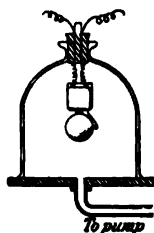

FIG. 315.—
**319. Sound Media.**—Usually sounds reach the ear through the air. The air is then said to be a *medium for sound*. Other substances may serve as a sound medium, for if the head is under water and two stones, also under water, are struck together a sharp sound is heard. Also if one end of a wooden rod is held at the ear and the other end of the rod is scratched by a pin, the sound is more plainly perceived through the wood than through the air. Think of some illustration from your own experience of a solid acting as a medium for sound. If an electric bell is placed in a bell jar attached to an air pump, as in Fig. 315, on exhausting the air the loudness of the sound is found to diminish, indicating that in a perfect vacuum no sound would be transmitted. This effect of a vacuum upon the transmission of sound is very different from its effect upon radiation of heat and light. Both heat and light are known to pass through a vacuum since both come to the earth from the sun through space that so far as we know contains no air or other matter. Sound differs from this in that it is always transmitted by some material body and cannot exist in a vacuum.